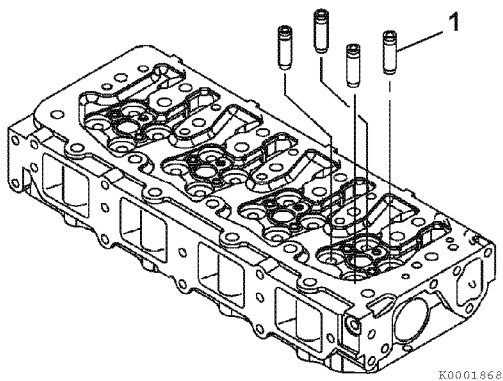

Figure 6-65
2. Immediately after removing the valve guides from the freezer, insert the valve guides (**Figure 6-65, (1)**) in their proper positions.